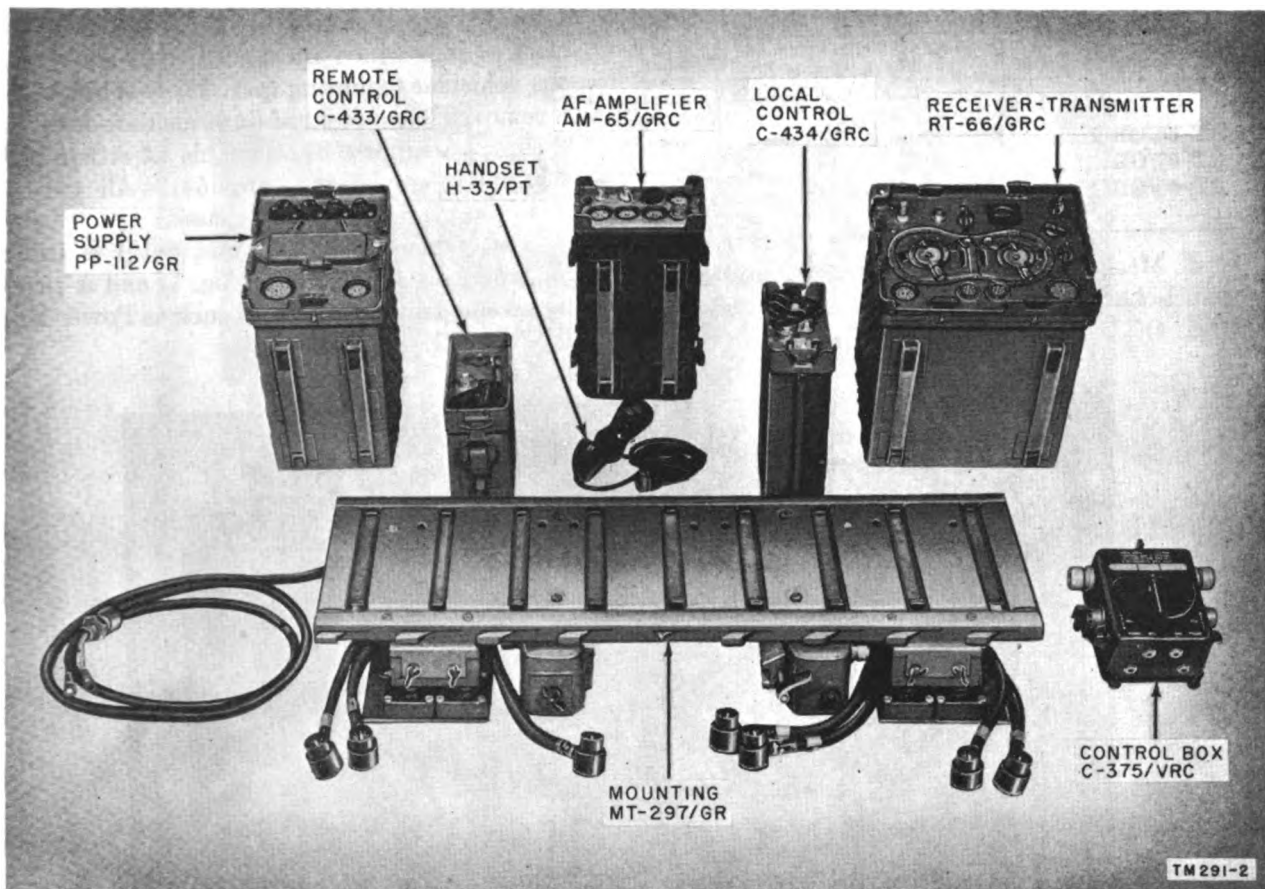

Figure 3. Common components of Radio Sets AN/VRC-13, -14, and -15.
b. COMMON COMPONENTS (fig. 3). All of the basic radio sets have the following items in common:
- (1) One receiver-transmitter, an interphone amplifier, and suitable power supplies.
- (2) A mounting.
- (3) Three control units.
- (4) Suitable antenna systems and interconnecting cables.